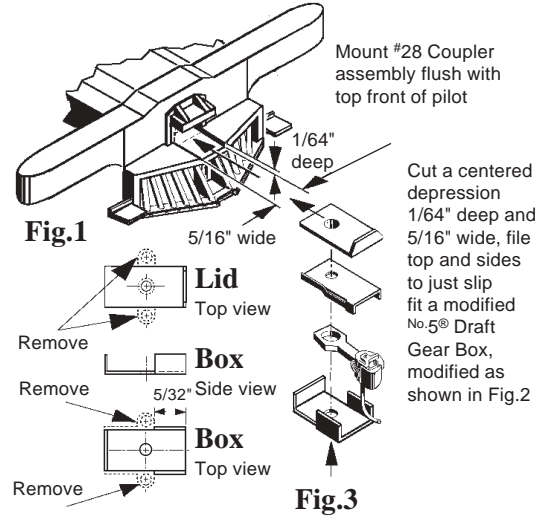

Fig.1
2. Cut out and widen the pilot coupler pocket, so that a No.5® Draft Gear Box can be slipped into the opening. Carefully trim to size by trial and error using sharp hobby knife or file. The draft gear box should just slide in and not be sloppy. Be sure you have aligned box on loco centerline. See Fig.1 for dimensions.
3. Modify No.5® Draft Gear Box according to Fig. 1 and 2. Place #28 Coupler, with Centering Spring on top, into Draft Gear Box and insert into coupler pocket opening, so that front of box is flush with top front of pilot. Double check alignment to center of loco, check height and Trip Pin clearance from pilot. If everything is correct, secure the Draft Gear Box with a plastic compatible cement. Replace front pilot truck.